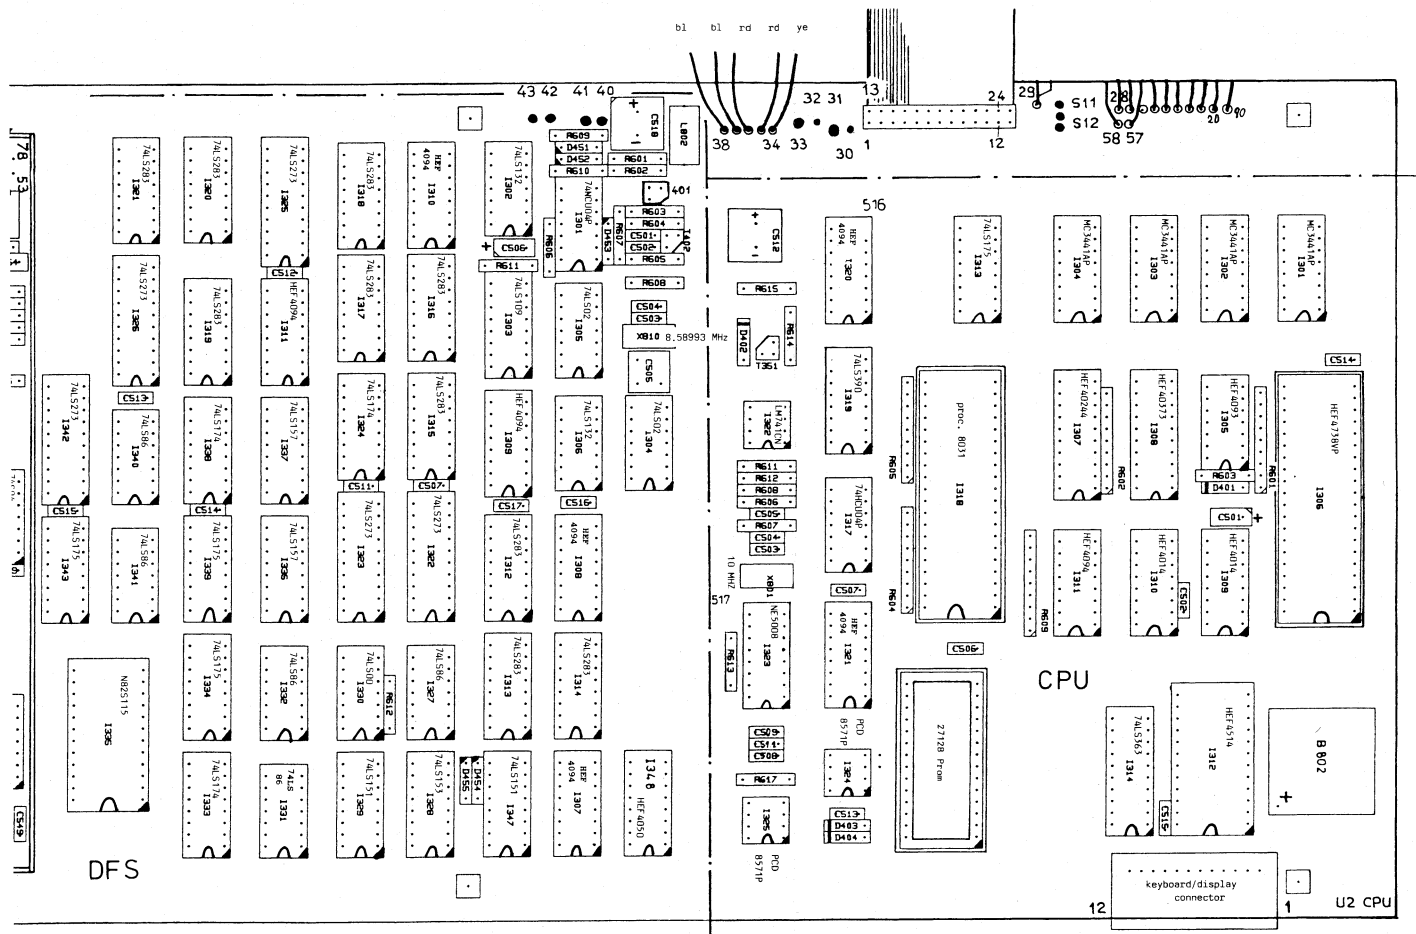

Fig. 40 Unit 2, component lay-out
- Fig. 40 Unit 2, component lay-out